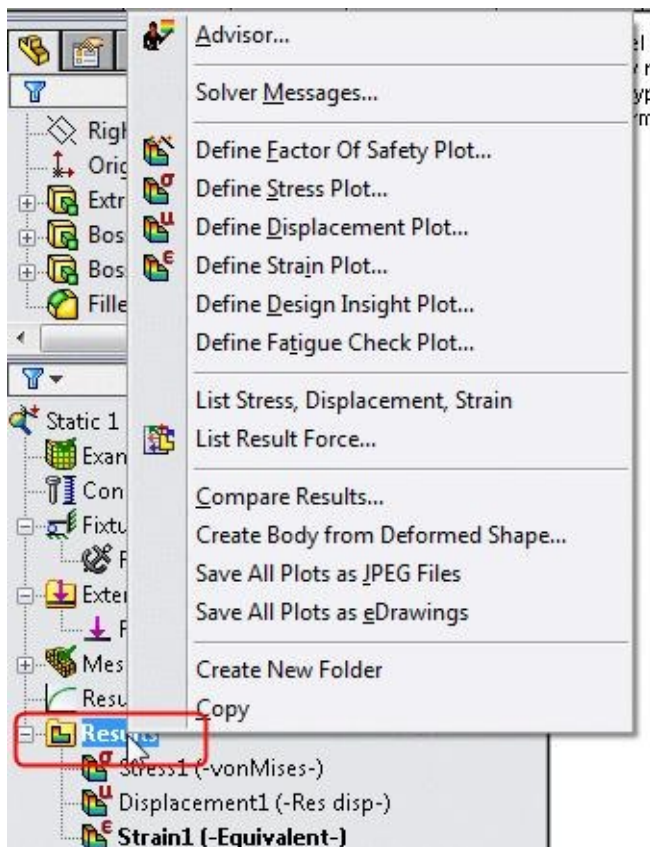

Figure-19. Shortcut menu for results
- To check results other the default displayed, right-click on the **Results** node from the **Analysis Manager**. A shortcut menu will be displayed; refer to Figure-19.